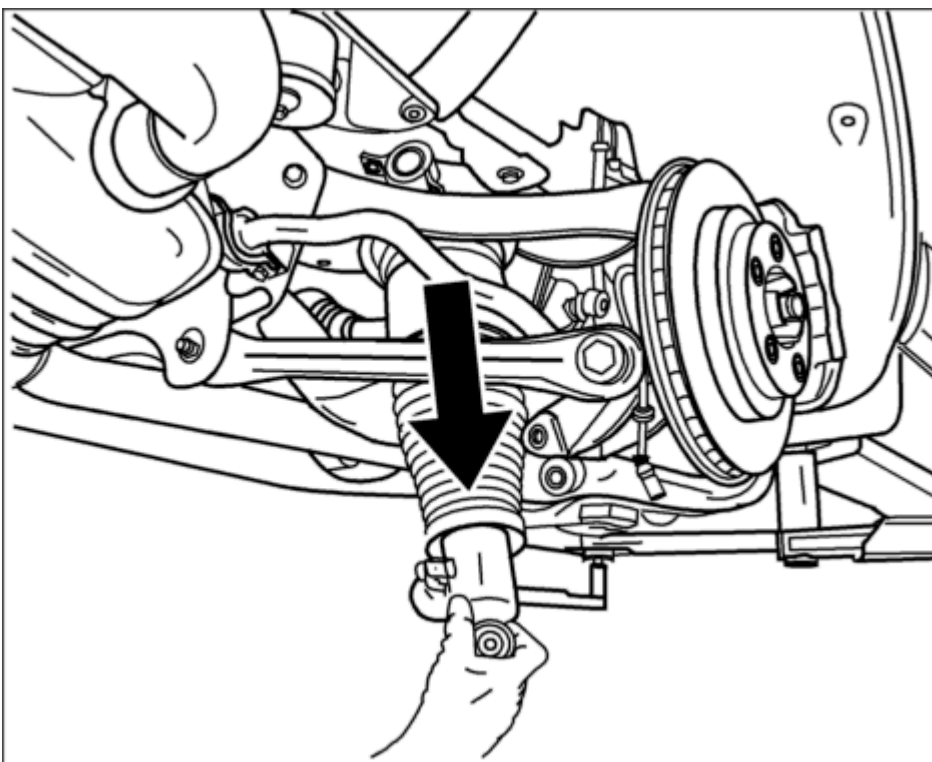

Fig. 70: Removing spring strut
8. Carefully remove spring strut downwards -**arrow**- . See **Fig. 70**.